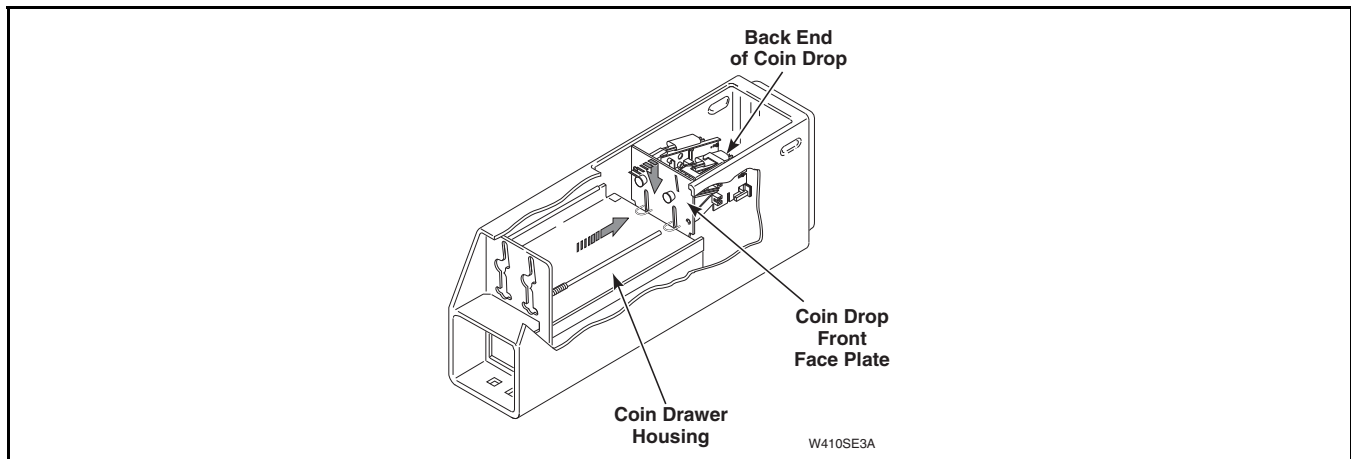

Figure 52
- (8) Lift back end of coin drop and pull straight back until bottom edge of the drop's front face plate falls behind the coin drawer housing. Refer to *Figure 52*.